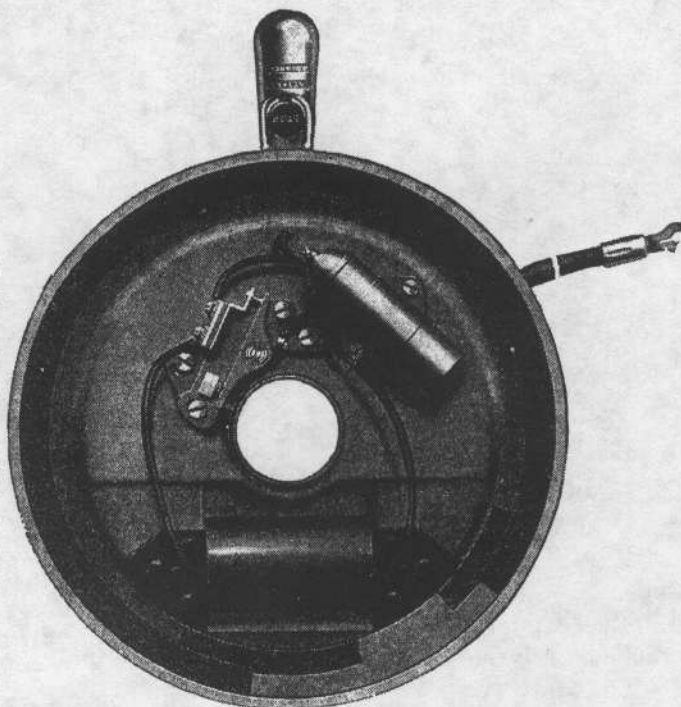

Fig. 15. Cross section of magneto in flywheel
**CAUTION:** Do not try to adjust breaker points turning contact screw point. Loosen screw (A, Fig. 15) and move breaker base in or out.